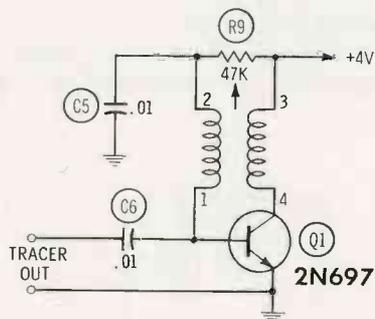

Fig. 4. The signal generator stage.
3. Vertical trace in center of screen, trace changes in amplitude, but no horizontal sweep.	<ol style="list-style-type: none"> <li>1. Check waveforms at test points 1 thru 6, make voltage checks at test points 1A thru 8A (See Fig. 4).</li> <li>2. Check compensating networks at input circuit. Be sure input selector switch wafer contacts are clean and making good contact.</li> <li>3. If external horizontal sync is applied, check probe for good contact at circuit point under test and for good contact with scope connector. Probe ground straps are frequent offenders.</li> </ol>